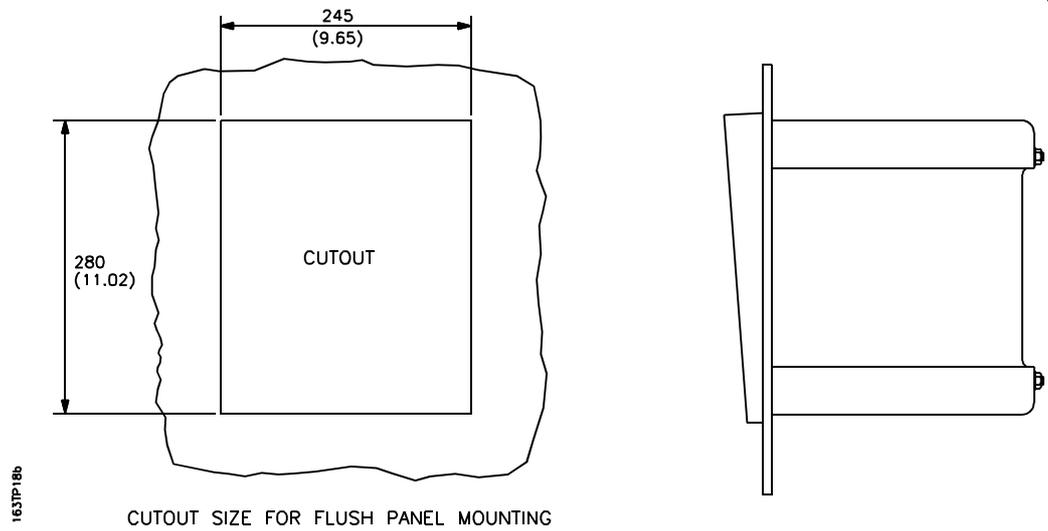

Figure 2.3 Flush Panel Mounting (Control Unit Only)
2. Flush panel mounting using kit 01100 413 (Figure 2.3)
Make a rectangular hole in the panel as shown in Figure 2.3.